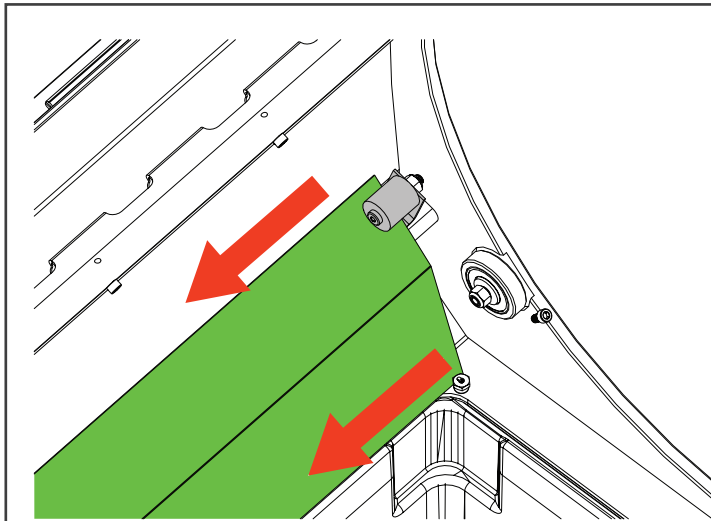
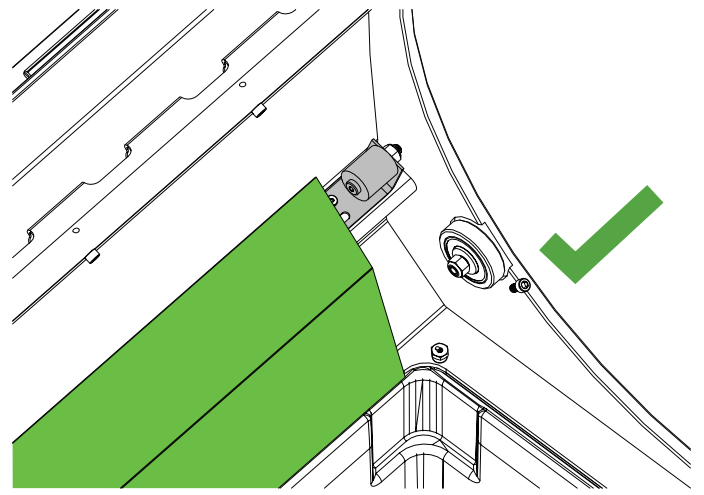

Fig. 21a
Fig. 21b
- a. Slide the baffle so that one end is no longer under the baffle guide (see Fig. 21a and Fig. 21b top of page 20).